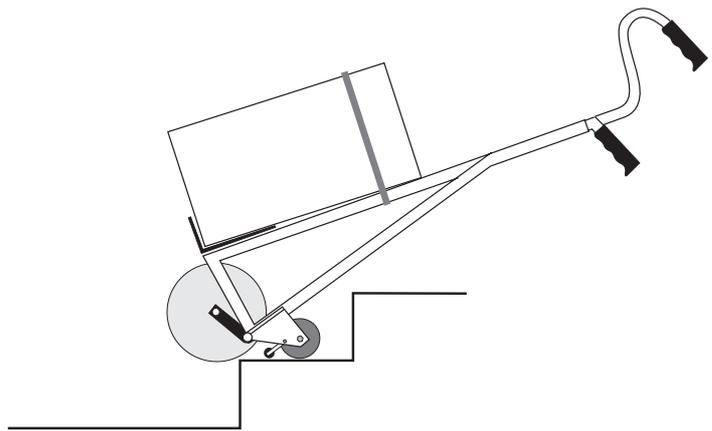

FIGURE 32
5. The second section begins with the lifting or pulling up of the big wheels as shown in Figure 32; it is finished when the big wheels touch down, next to the small supporting wheels, on the following step.